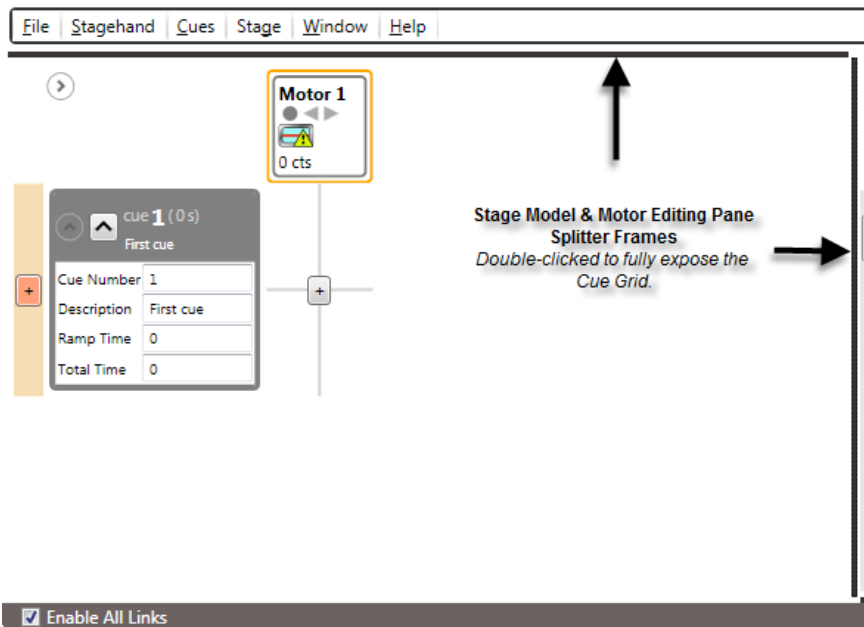

Figure 236
1. Expand the **Cue Grid** to its full size by double clicking on the **Stage Model Viewer** and the **Motor Editing Pane**'s Splitter Panes (Figure 236).